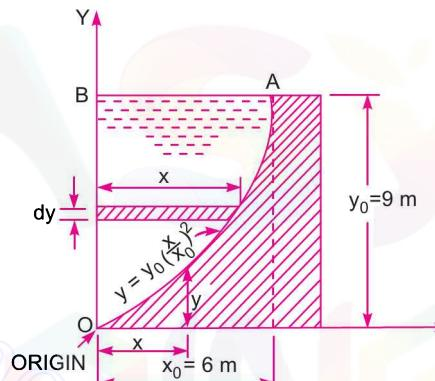

Fig. 3.38
**Problem 3.30** A dam has a parabolic shape  $y = y_0 \left( \frac{x}{x_0} \right)^2$  as shown in Fig. 3.38 below having  $x_0 = 6 \text{ m}$  and  $y_0 = 9 \text{ m}$ . The fluid is water with density =  $1000 \text{ kg/m}^3$ . Compute the horizontal, vertical and the resultant thrust exerted by water per metre length of the dam.